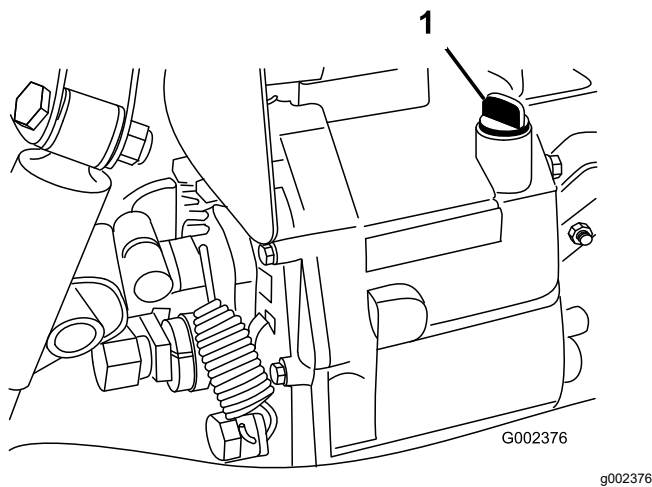

Figure 66
4. Clean the area around the dipstick (Figure 66).